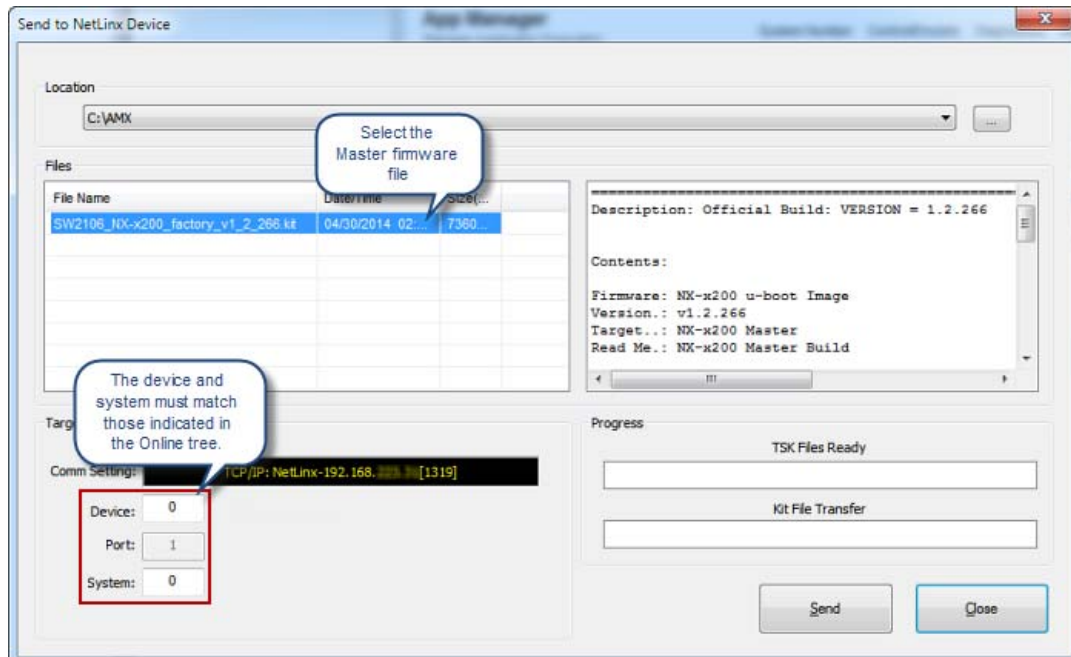

FIG. 26 Send to NetLinX Device dialog (showing on-board NX Master firmware update)
- Note that the *Port* field is disabled (FIG. 26).